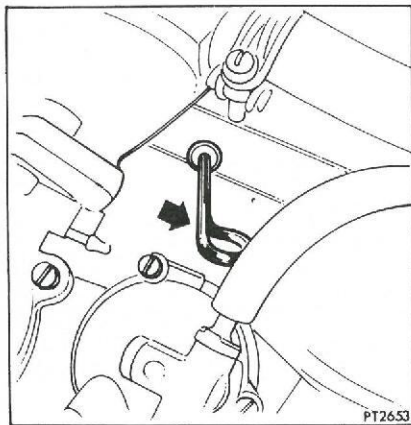
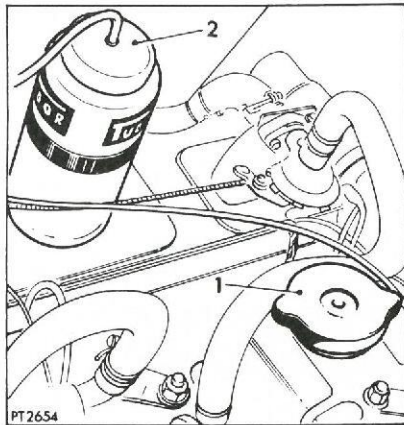

Fig. 1
Fig. 2
Withdraw the dipstick (arrowed Fig. 1), wipe it clean and push it fully home before again withdrawing it for reading. Add oil via the filler cap (1) (Fig. 2) until the level reaches the high mark on the dipstick. **Do not overfill**, and ensure that the filler cap and dipstick are replaced.
### Windscreen Washer (2) (Fig. 2)